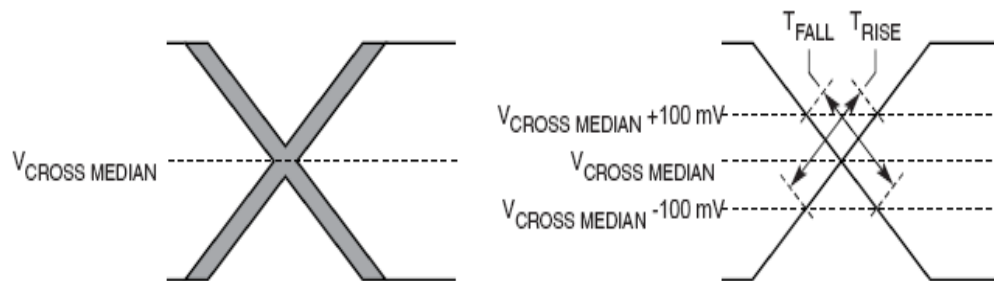

Figure 41. Single-ended measurement points for rise and fall time matching
6. Matching applies to the rising edge for $\text{SD}_n\text{_REF_CLK}$ and falling edge rate for $\overline{\text{SD}_n\text{_REF_CLK}}$. It is measured using a 200 mV window centered on the median cross point where $\text{SD}_n\text{_REF_CLK}$ rising meets $\overline{\text{SD}_n\text{_REF_CLK}}$ falling. The median cross point is used to calculate the voltage thresholds that the oscilloscope uses for the edge rate calculations. The rise edge rate of $\text{SD}_n\text{_REF_CLK}$ should be compared to the fall edge rate of $\overline{\text{SD}_n\text{_REF_CLK}}$, the maximum allowed difference should not exceed 20% of the slowest edge rate. See Figure 41.